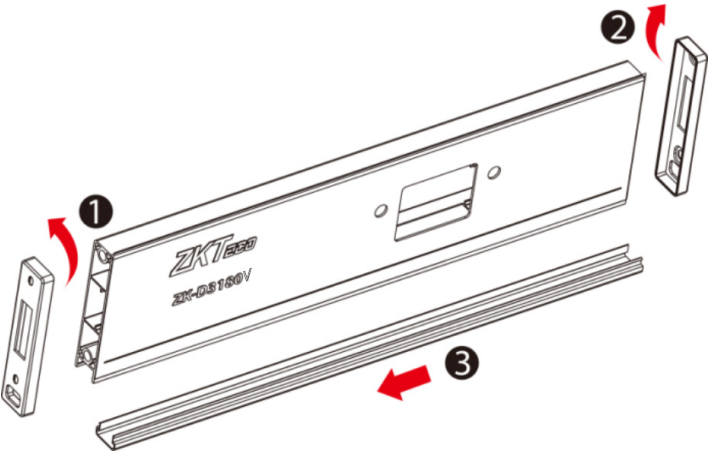

Figure 3-4
**Step 4:** Open the left and right cover of the front beam, push out the lower cover, as shown in the figure 3-4 below.